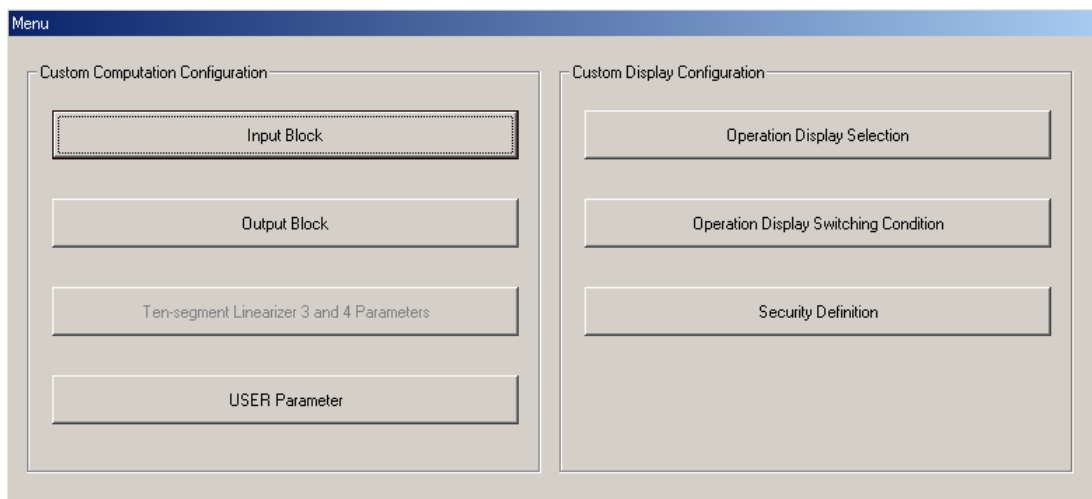
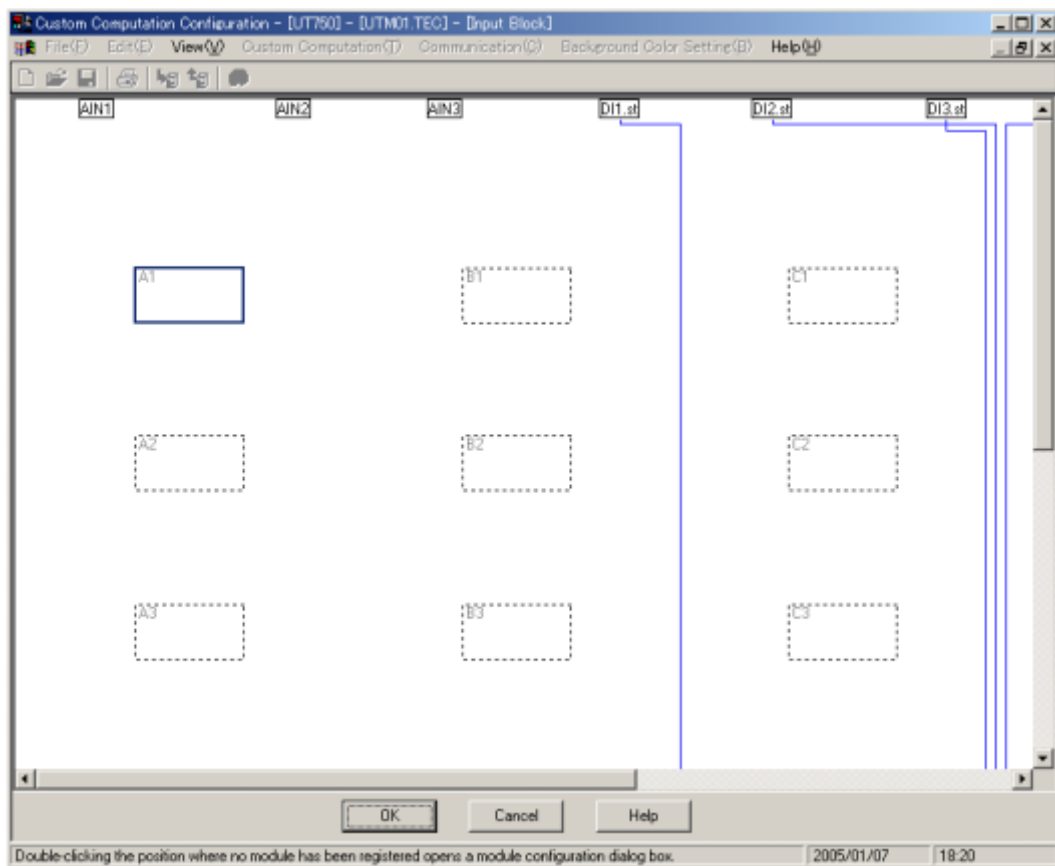

Figure 12.0.2
Figure 12.1.4 [Input Block] Dialog Box
- (1) In the [Tool Selection] dialog box, click the <Custom Computation Building Tool> option button. Then, click the <OK> button.
- (2) In the [New/Modification] dialog box, click the <Open Sample File> option button. Then, click the <OK> button.
- (3) In the [Open Sample File] dialog box, choose the sample for single-loop control (file name: Utm01.tec) as the file to be read.
- (4) In the [Select Model and Suffix Codes] dialog box, choose <Standard type> as the controller type. Specify the same suffix and optional suffix codes as those of the controller you will connect to the system.
- (5) In the [Select Model and Suffix Codes] dialog box, click the <OK> button. The [Custom Computation Configuration Menu] dialog box (Figure 12.0.2) appears.
- (6) Now, you are ready to configure the same custom computations and displays as the examples discussed later in this chapter.
- (1) In the [Custom Computation Configuration Menu] dialog box (Figure 12.0.2), click <Input Block>. After deleting of all computation modules, the [Input Block] dialog box (Figure 12.1.4) appears.